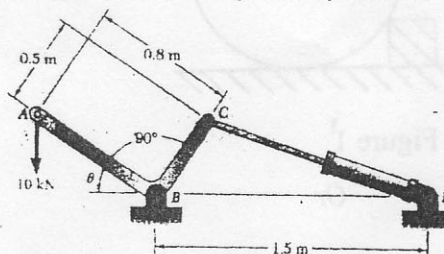

Figure 5 Or
- IV. (a) The position of member ABC is controlled by the hydraulic cylinder CD. For the loading shown in Fig. 5. Determine the force exerted by the hydraulic cylinder on pin C when $\theta = 55^\circ$.